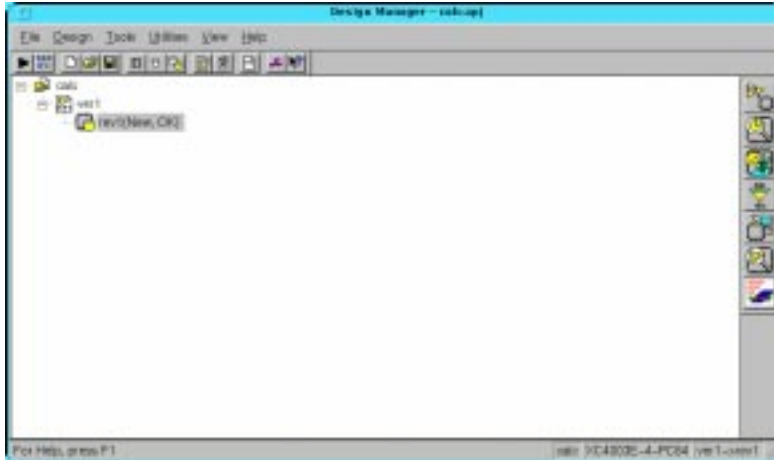

Figure 10-74 Design Manager With a New Version
10. Click on OK. The Design Manager window should now look like the following Figure 10-74.